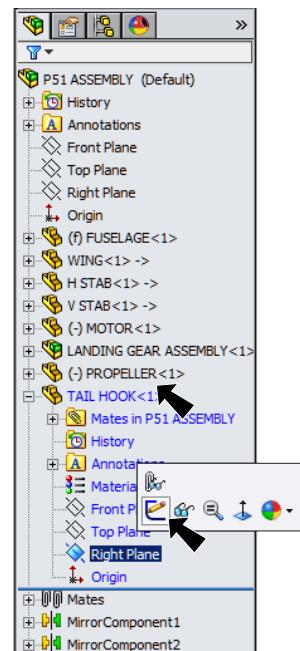

Fig. 2
Step 1. Expand Tail Hook part in the Feature Manager, click **Right Plane**  and click **Sketch**  on the Context toolbar, Fig. 2.